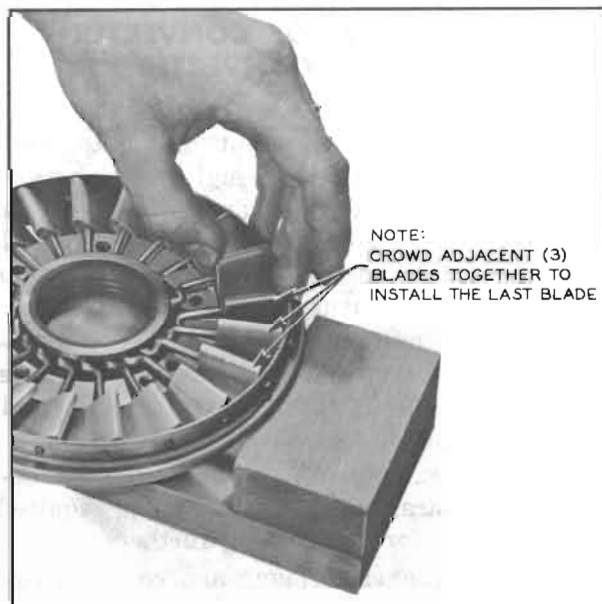

Figure 5-54—Inserting Last Blade
6. To insert the last blade it will be necessary to tilt the adjacent 3 blades. See Figure 5-54.